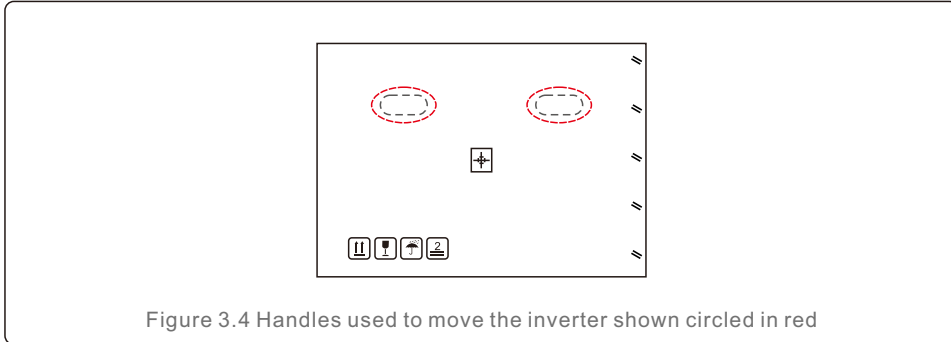

Figure 3.4 Handles used to move the inverter shown circled in red
1. The red circles below denote cutouts on the product package. Push in the cutouts to form handles for moving the inverter (see Figure 3.4).